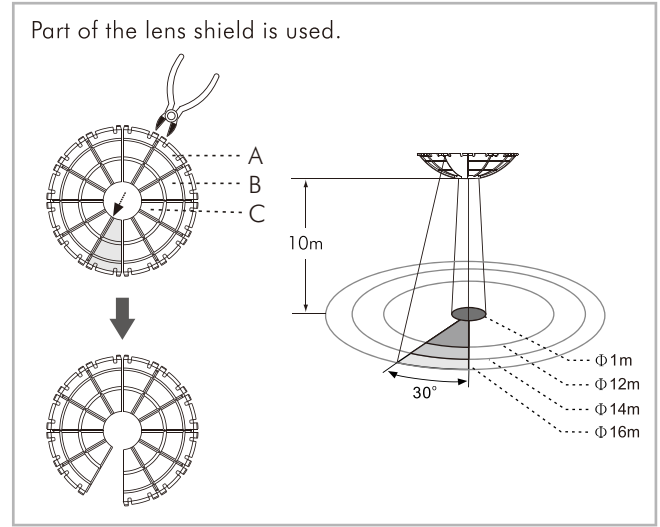

FIG.17
- The shadow part of the lens shields in the FIG.17 is refer to the cut off parts.